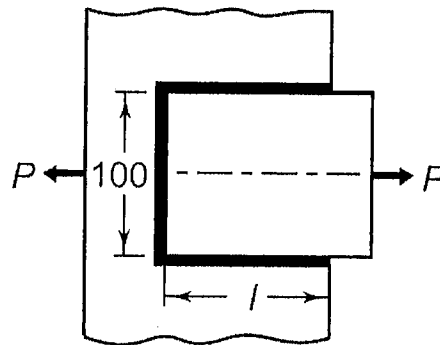

Fig. Q3b
b) A steel plate, 100 mm wide and 10 mm thick, is joined with another steel plate by means of single transverse and double parallel fillet welds, as shown in Fig. Q3b. The strength of the welded joint should be equal to the strength of the plates to be joined. The permissible tensile and shear stresses for both weld material and the plates are 70 and 50 N/mm² respectively. Assuming the tensile force acting on the plates as static,